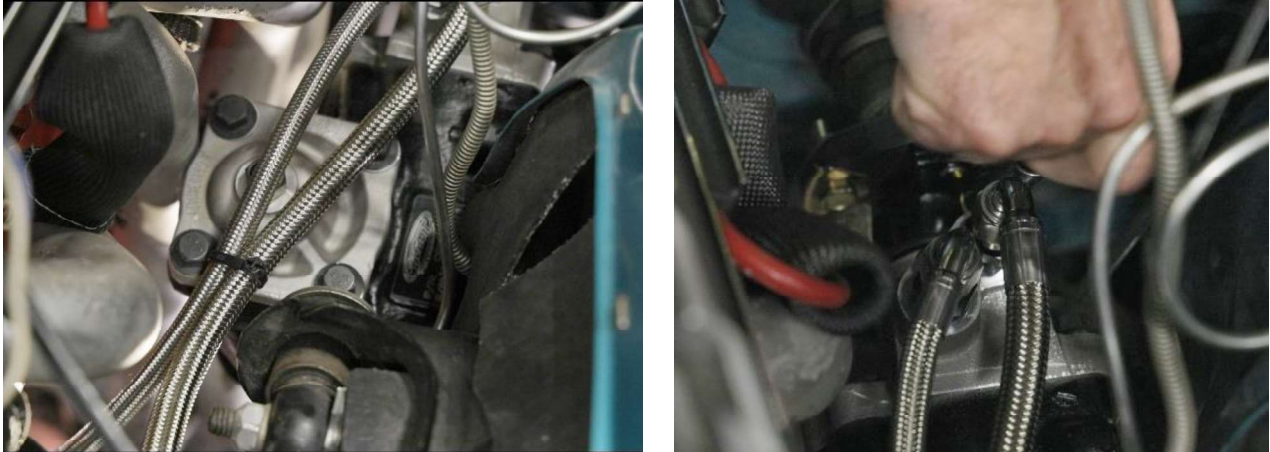

Figure 14 – Tie Hoses & Tighten Rag Joint
17. Use tie-wraps to keep the power steering hoses away from the exhaust. Tighten the pinch bolt in the rag joint (Figure 14).